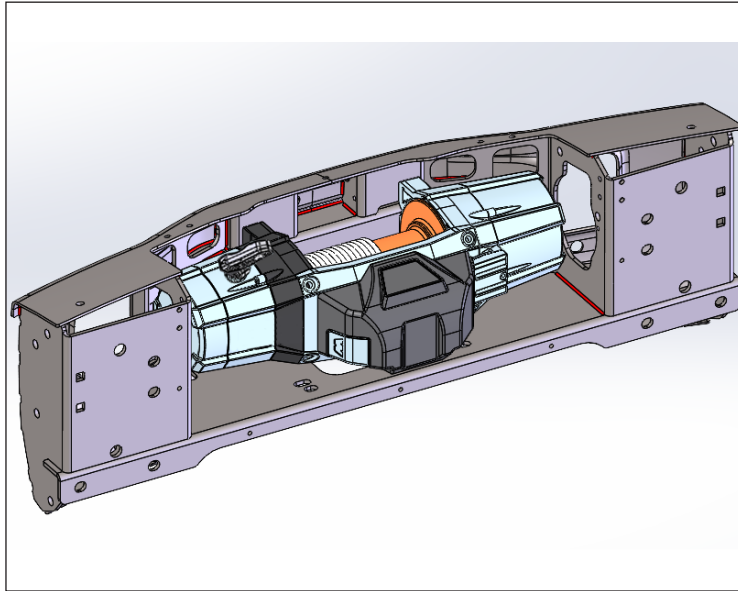

Figure 3
1. Set the winch into the Bumper Center Section as shown below in Fig 3